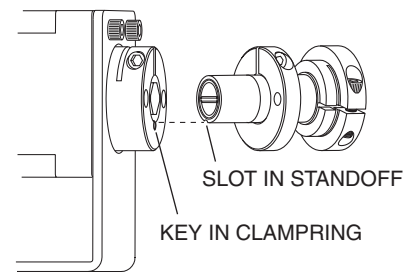
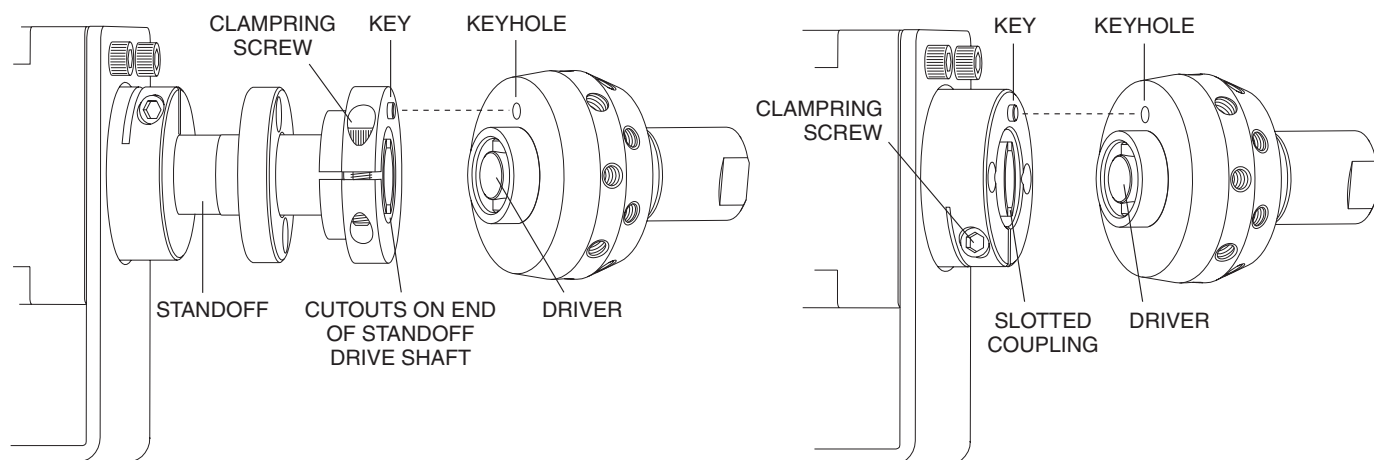

Figure 4: Standoff keyed to actuator
Figure 5: Keyed standoff assembly (left) and keyed closemount assembly (right)
3. Make sure the actuator is in position 1. If the standoff has been removed from the actuator for some reason, reinstall it as indicated in **Figure 4**. Make sure that the driveshaft is oriented so that the cutouts on the end are in line with the key, as indicated in **Figure 5**.
4. Replace the driver on the rotor tab and place the valve on the standoff or closemount clampring. (**Figure 5**) Make sure that the pin in the driver is engaged by the cutouts in the standoff drive shaft or slotted coupling. If the rotor is perfectly oriented toward the keyhole, the keyhole will slide right onto the key and the valve face will be flush against the face of the clampring.